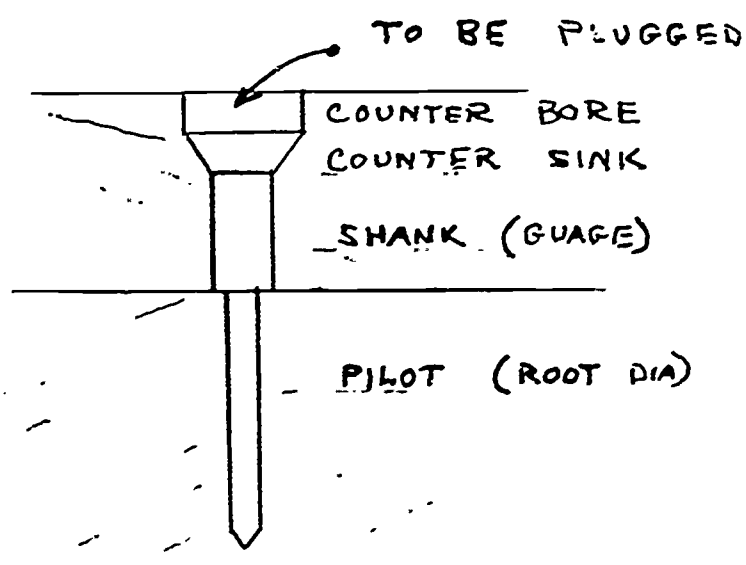

FIG. 224
3. Drill a pilot hole in both pieces to be fastened. (The size to be the same as the "root" diameter of the screw.) See figure 224.